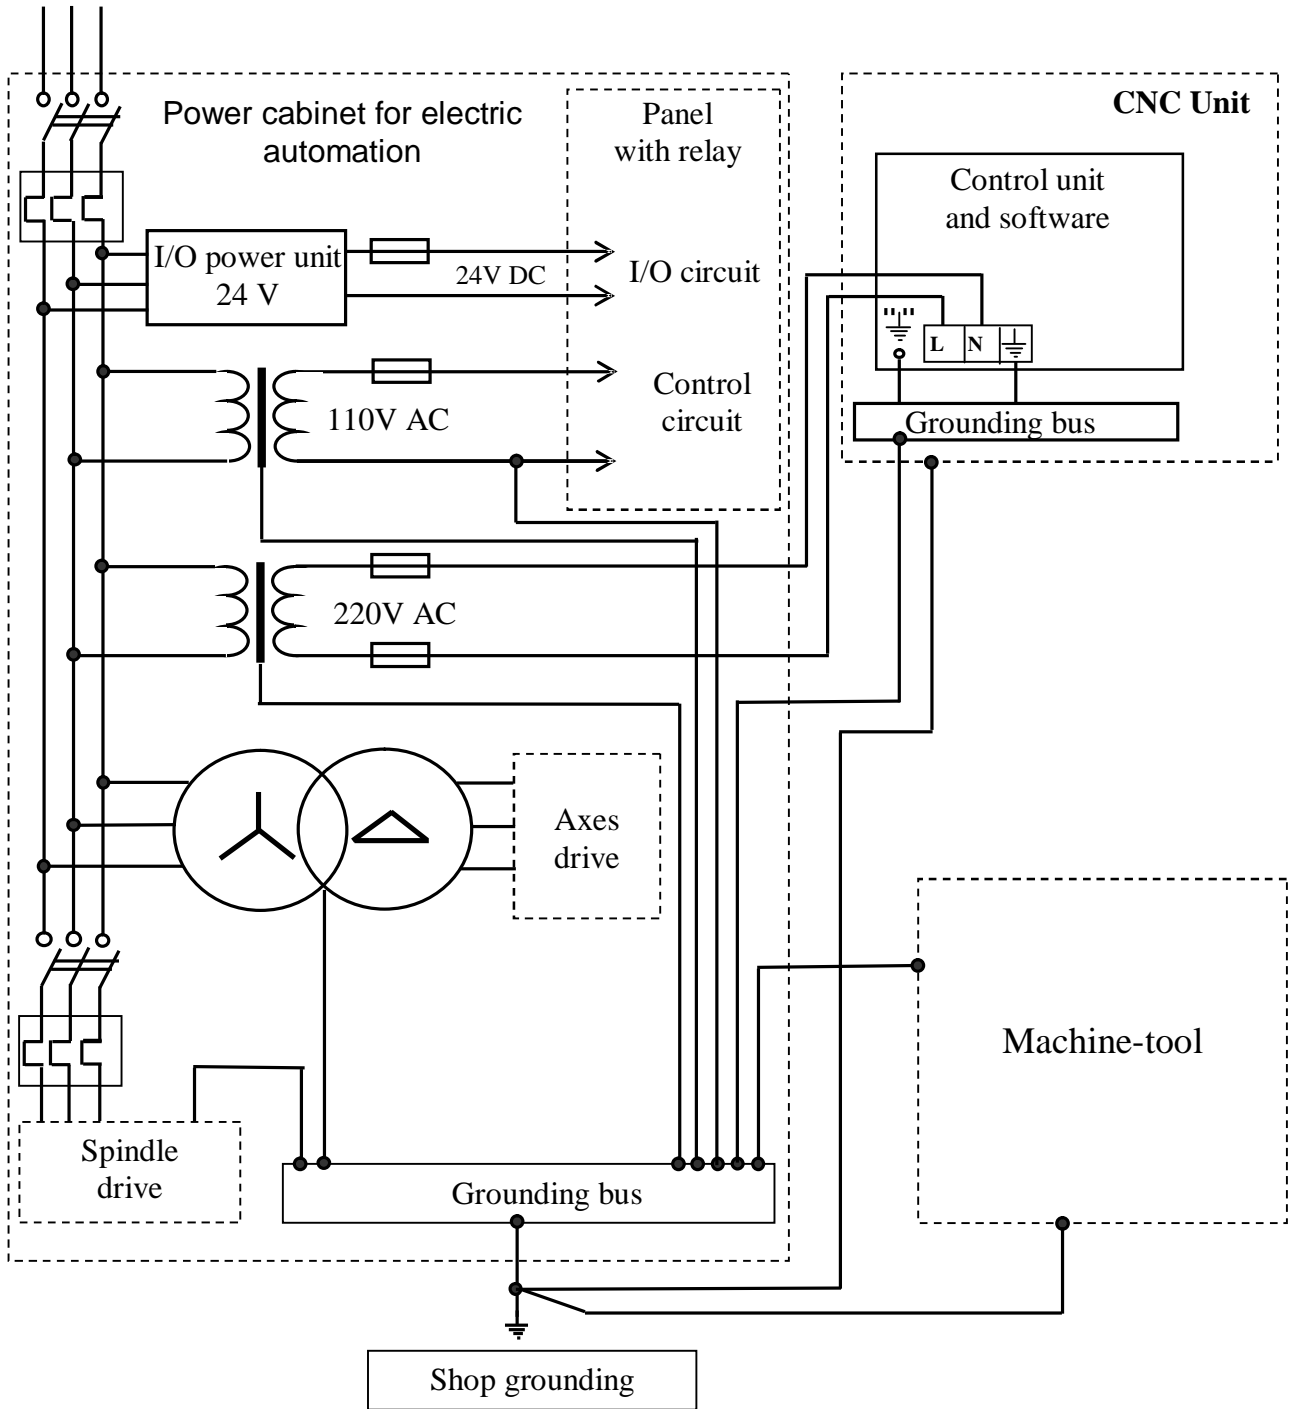

Figure E.1
E.1. The diagram for the connection of the CNC Unit to the machine-tool is shown in Figure E.1.